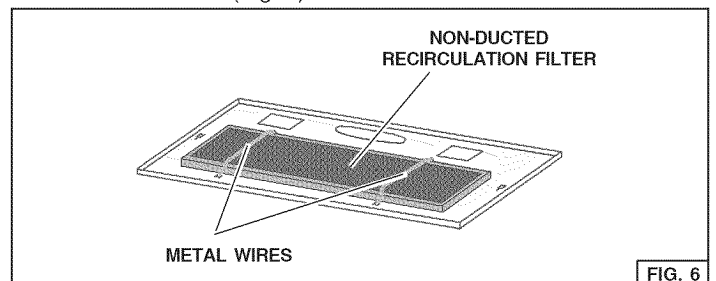

FIG. 6
2. Install the Non-ducted recirculation filter over the grease filter and secure it with the metal wires supplied with the Non-ducted recirculation Filter (Fig. 6).
- Remove the metal wires (Fig. 6) and replace the Non-ducted recirculation Filter.